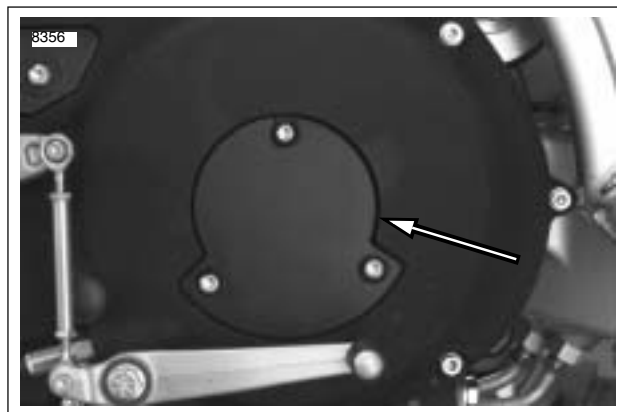
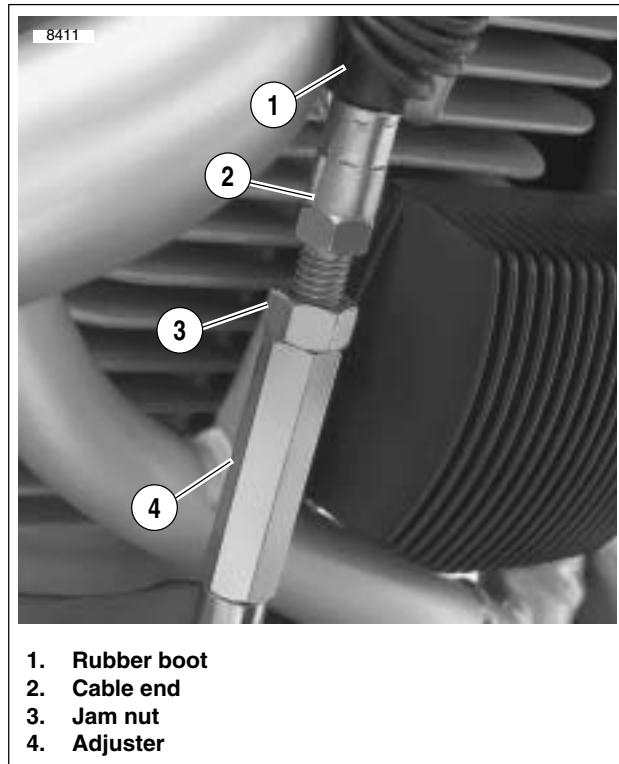

Figure 1-19. Clutch Inspection Cover
Figure 1-22. Clutch Cable Adjuster Mechanism
8. See Figure 1-19. Install clutch inspection cover tightening three fasteners and washers to 84-108 in-lbs (10-12 Nm).
2. See Figure 1-22. Slide rubber boot (1) upward to expose adjuster mechanism. Loosen jam nut (3) from adjuster (4). Turn adjuster to shorten cable housing until there is a large amount of free play at clutch hand lever.
3. See Figure 1-19. Remove three fasteners and washers from clutch inspection cover. Remove clutch inspection cover and gasket from primary cover.
- b. See Figure 1-22. Set free play by turning adjuster (4).
- c. Tighten jam nut (3) against adjuster (4).
- d. Slide boot (1) over cable adjuster mechanism.
8. See Figure 1-19. Install clutch inspection cover and **new** gasket using three fasteners and washers and tighten to 84-108 **in-lbs** (10-12 Nm).